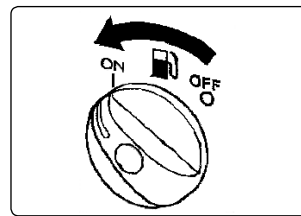

fig.7
6.3.3. Turn the fuel Knob to "ON" fig.7.